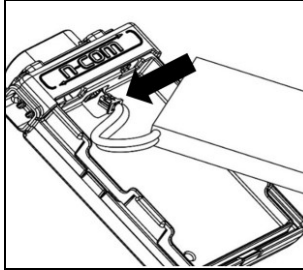

Fig. 2
- Connect the battery to the port (Fig. 2), taking care to insert it correctly. If necessary use the provided flat head screwdriver to insert the battery connector fully into the port.